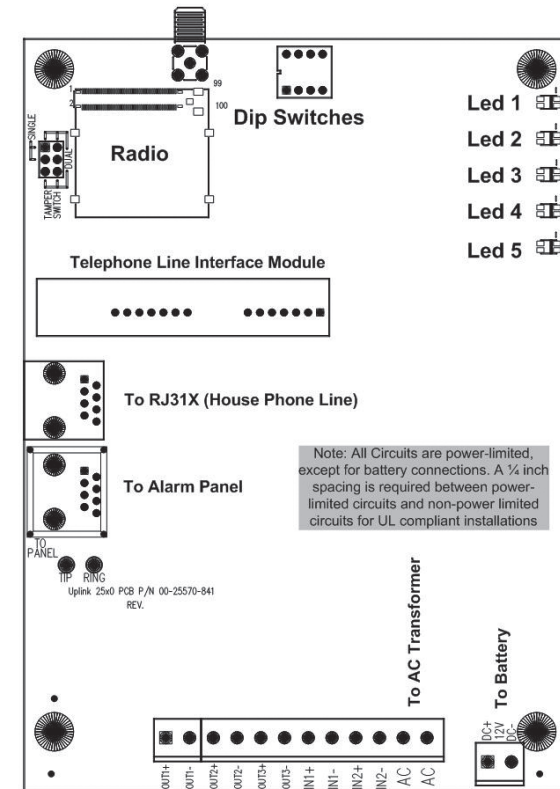

FIGURE 1: 2550-CB PC Board Details
1. Open the enclosure's door. Locate the four (4) mounting holes. Use the enclosure as a template to mark where to drill holes for the screws and anchors that will hold the enclosure in place on the wall.
3. Go to the red, 4-position Dipswitch as shown in Figure 1 and set the dipswitch as appropriate for this installation (table on page 16).